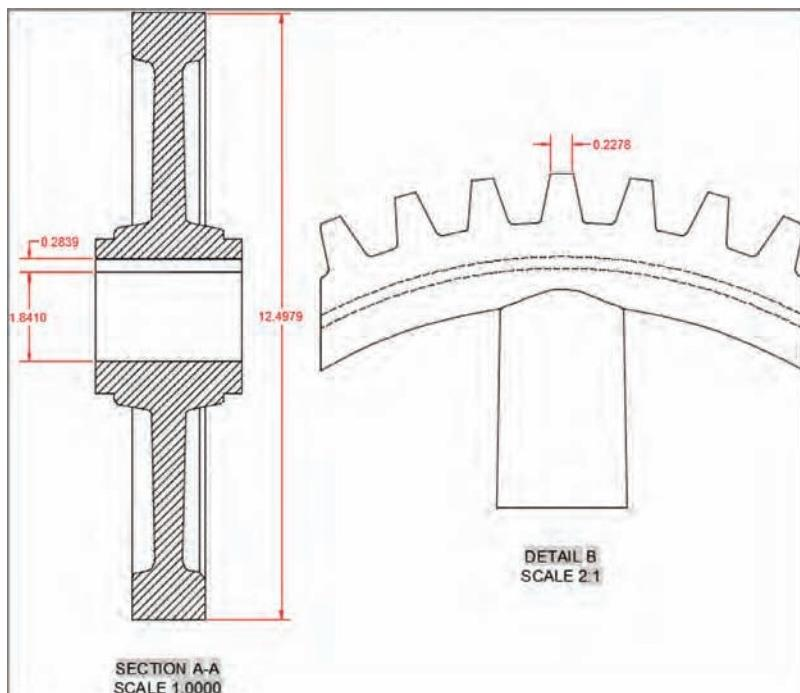

FIGURE 18.26 Associating dimensions with section and detail views
12. Toggle on object snap in the status bar. Switch to the Annotate tab on the ribbon and select the Linear tool in the Dimension panel. Dimension the features shown in Figure 18.26. These dimensions are associated with the section and detail views, which in turn are